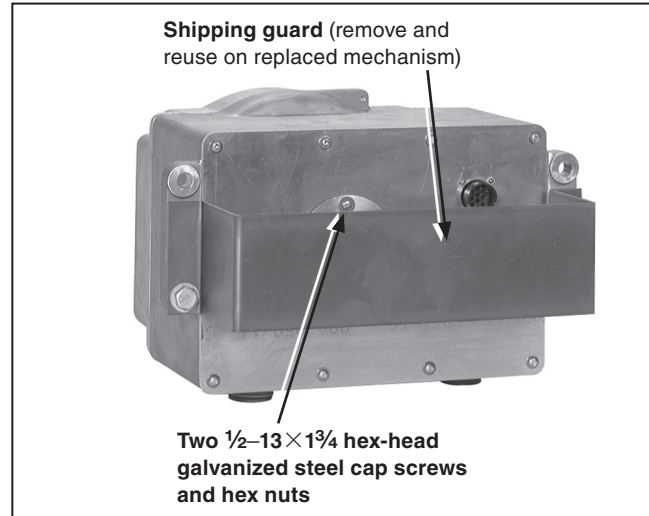

Figure 7. Removing the shipping guard.
STEP 7. Remove the two $\frac{1}{2}$ -13 \times 1 $\frac{3}{4}$ hex-head galvanized-steel cap screws and hex nuts securing the shipping guard to the replacement operating mechanism. Save the shipping guard and hardware for reuse on the replaced operating mechanism. While handling the replacement operating mechanism with the shipping guard removed, take care to not apply heavy force to the levers on the back of the mechanism. See Figure 7.